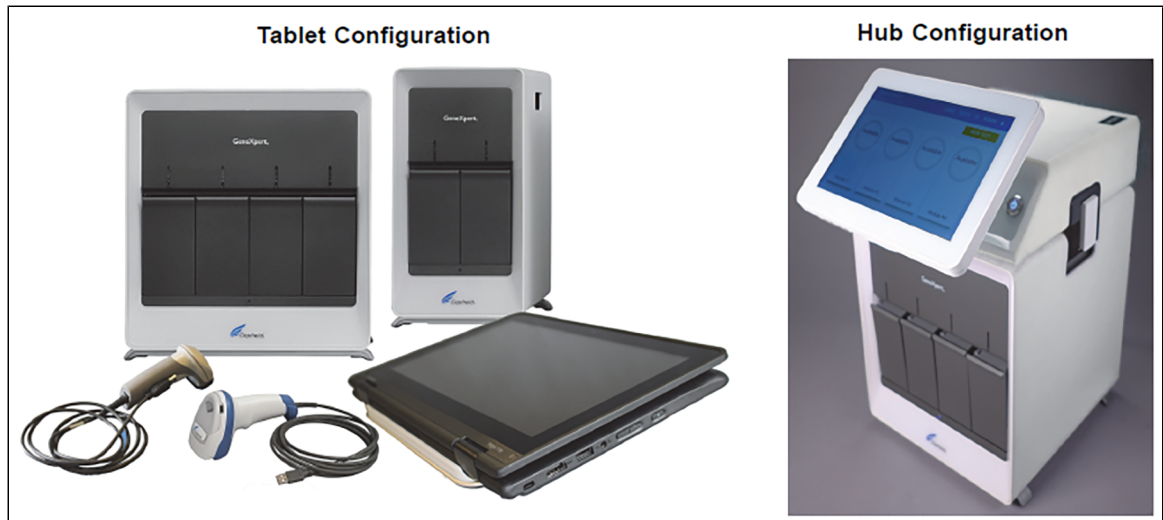

Figure 4. Tablet and Hub System Configurations
2. Determine which system configuration you have (Figure 4).